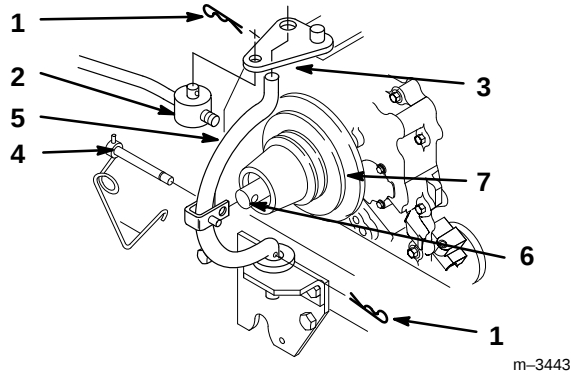

Figure 17
5. Remove hairpin cotters from trunnion and bottom of yoke (Fig. 17).
6. Unlatch and remove locking clevis pin that secures yoke assembly to clutch shaft. Pivot yoke out and forward to remove from clutch shaft and engagement plate (Fig. 17).
7. Place belt in inside pulley groove (Fig. 17).
8. Assemble yoke and engagement plate and attach locking clevis pin, trunnion and hairpin cotteners to secure (Fig. 17).